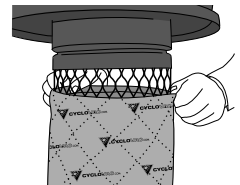

figure 15
3. Both filters must be completely dry before they are reinstalled. Carefully install them in the support grooves (**figure 15**) on the filter frame to ensure adequate protection of the motor. Install the thick filter first, and the anticlogging filter (thin fabric) over.